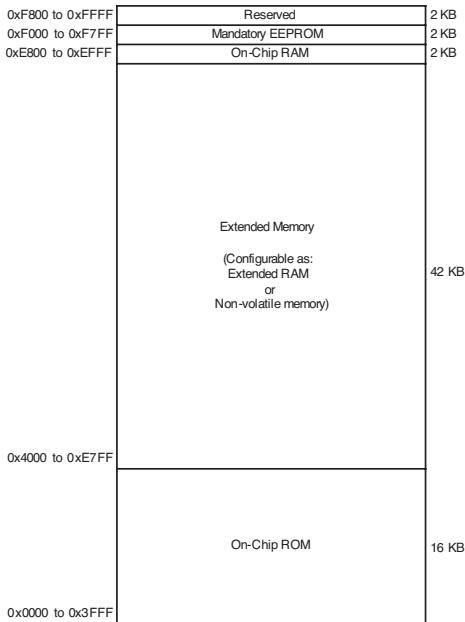

Figure 6: FT 5000 Smart Transceiver Memory Map
**Memory map.** An FT 5000 Smart Transceiver has a memory map of 64KB. A Neuron C application program uses this memory map to organize its memory and data access. The memory map is a logical view of device memory, rather than a physical view, because the chip's processors only directly access RAM. The memory map divides the FT 5000 Smart Transceiver's physical 64KB RAM into the following types of logical memory, as shown in Figure 6: